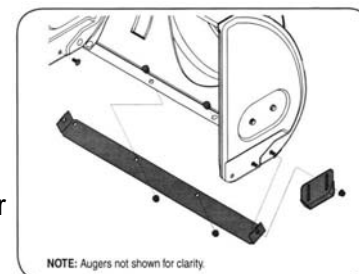

Fig. 19
2. Reassemble new skid shoes with the four carriage bolts (two on each side) and hex flange nuts. See Figure 19.
2. Reassemble new shave plate, making sure heads of carriage bolts are to the inside of housing. Tighten securely. See Figure 19.